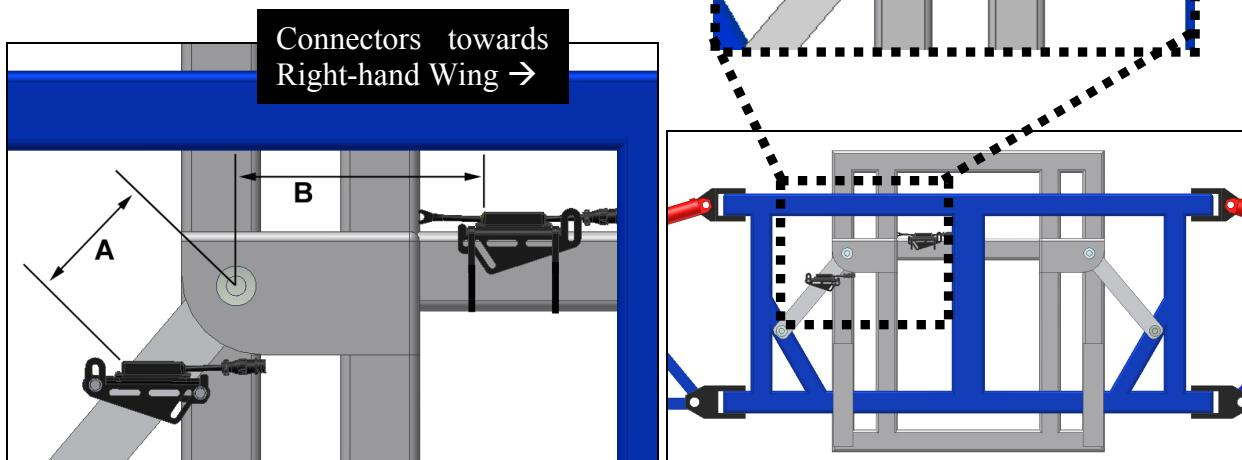

Figure 15 – General Roll Sensor Mounting Location on a Trapeze Style Boom
When mounting the roll sensors, use the following guidelines and refer to **Figure 15**
- a) The smaller the distance between **A** and **B** in **Figure 15**, the better the performance will be.
⚠️ The chassis roll sensor must be mounted on a portion of the sprayer that does not pivot and is as close to the boom frame roll sensor as possible (Figure 15).